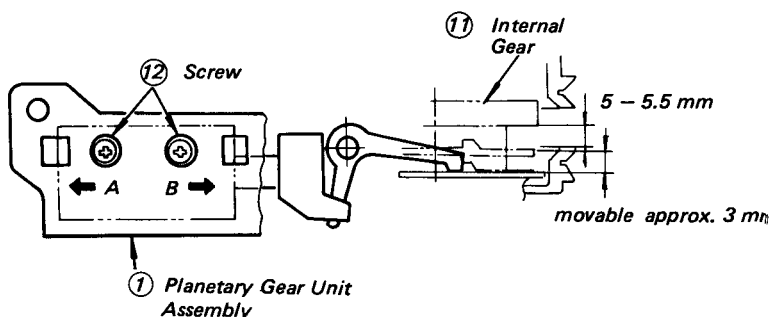

Fig. 5-80 Cue/Review Solenoid Adjustment
2. Slip the reel belt ⑨ off for removal.
3. Slip the reel belt ⑩ off for removal from the Fast-Forward clutch assembly only, but remain the reel belt ⑩ held on the output pulley ⑧.
4. Remove the two screws ⑤ holding the planetary gear unit assembly ①.
5. Loosen the two screws ⑫ holding the cue/review solenoid ④.
6. Slide the cue/review solenoid ④ in the direction B (→).
7. Set the VTR in the cue (or review) mode of operation for energizing the cue/solenoid ④ to extract the plunger.
8. Insert a bladed screwdriver in the rectangular hole, and gradually move the solenoid in the direction A (←) until the internal gear ⑪ is positioned as shown in Fig. 5-80.
9. Tighten the screws ⑫.